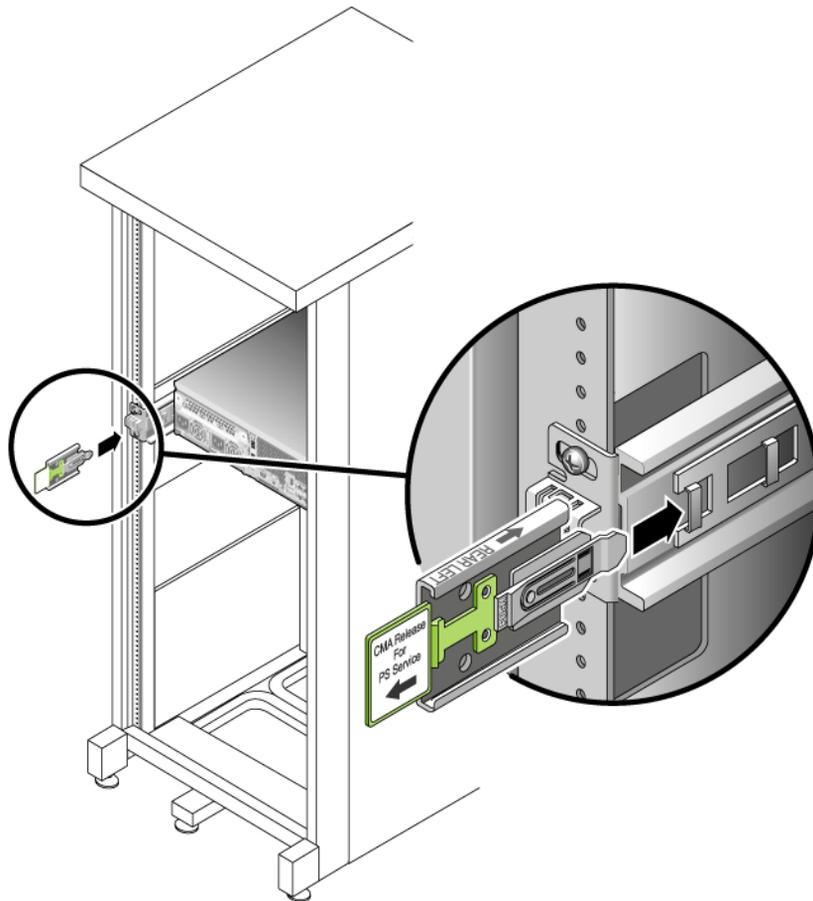

FIGURE 2-19 Inserting the CMA Rail Extension Into the Back of the Left Slide Rail
1. At the back of the rack, plug the CMA rail extension into the end of the left sliding rail assembly (FIGURE 2-19).